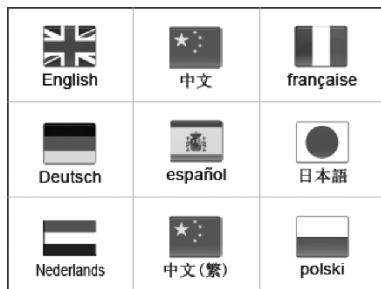

Figure 3-4
- 2) Use the **UP/DOWN** scroll button to select the desired language and press the **OK** button to save your selection and return to previous screen. (Figure 3-4)